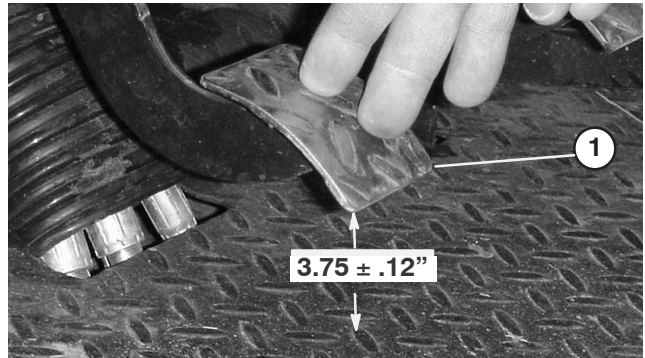

Figure 44
- Adjust the jam nuts/or ball joint until the back rear edge of the clutch pedal is $3.75'' \pm .12''$ from the top of the floor plate diamond pattern, when a 4 lb. force is applied to the pedal (Fig. 44).